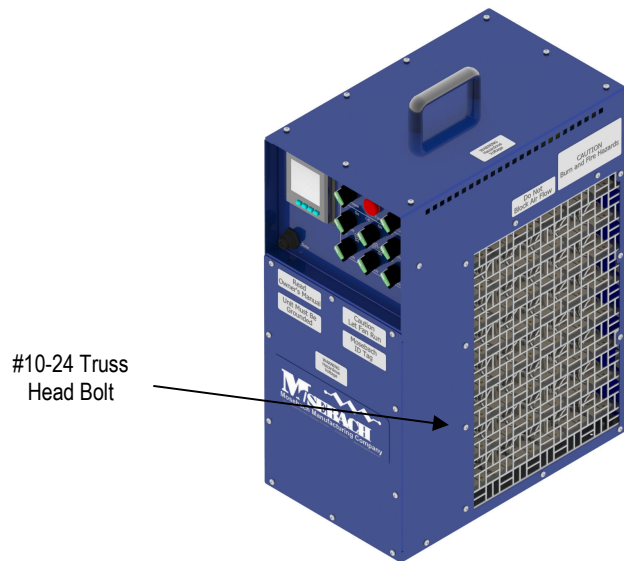

Figure 9a
1. Using a #2 Phillips head screwdriver, remove the twenty #10 screws from the lid. Carefully remove the panel from the unit. (See Figure 9a)